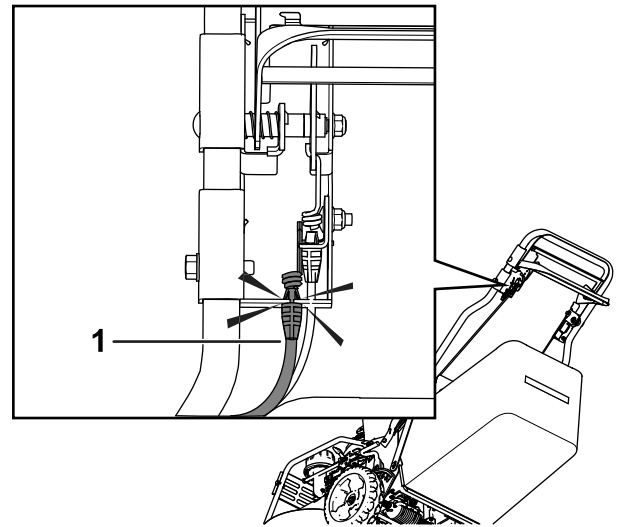

Figure 9
6. Disconnect the brake cable from the handle bracket (Figure 9).